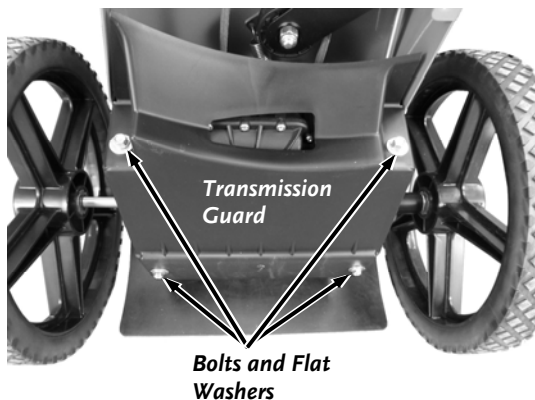

Figure 36
4. Remove the four Transmission Cover Bolts and Flat Washers with a 3/8" Wrench. Remove the Transmission Cover (Figure 36).
20. Install the Transmission Cover and secure with the four Bolts and Flat Washers using a 3/8" Wrench (**Figure 36**).